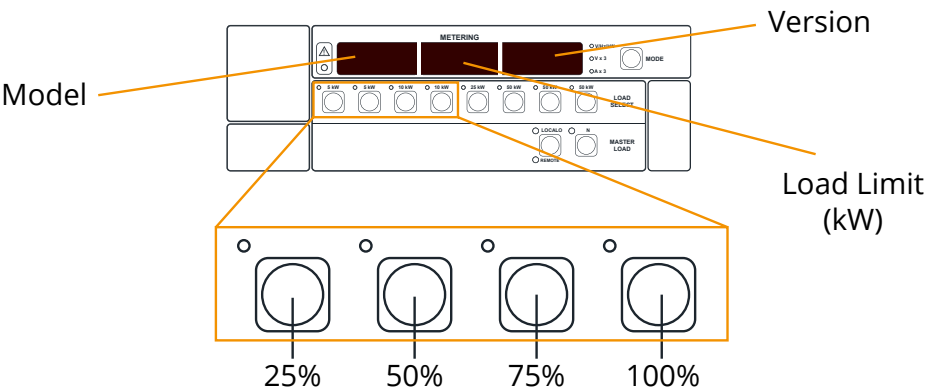

Figure 3-3 Load limit buttons with load limit amounts.
1. Press and hold at power up to set the load limit. See figure 3-3. Please note the load limit selected will be saved.